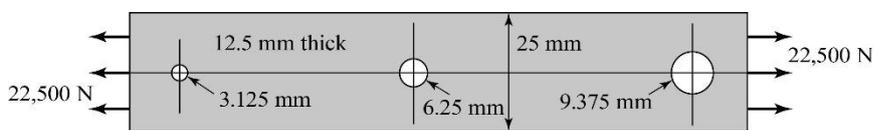

Fig.1
1. Find the value of the stress at each hole in Fig. 1.